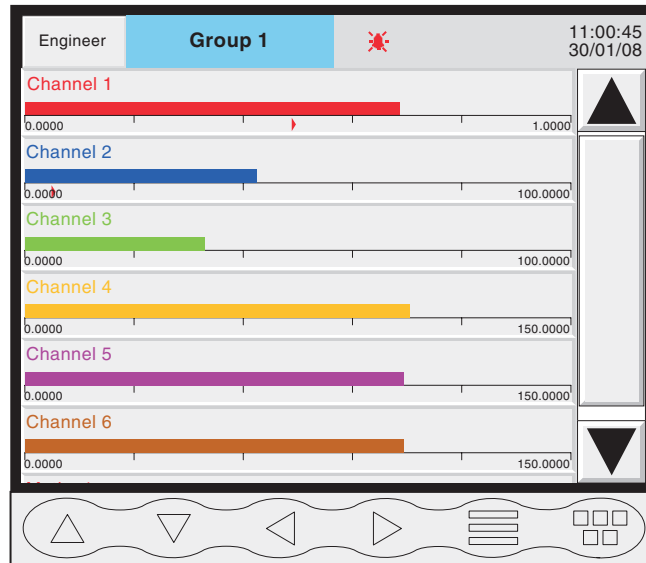

Figure 3.4.4 Horizontal bargraph displays
Entered from Vertical bargraph by means of the down arrow key, or selected using the Root Menu 'Goto View' key, this display mode shows the Process Variable (PV) values as horizontal bars with digital values and alarm data displayed, as shown in figure 3.4.4